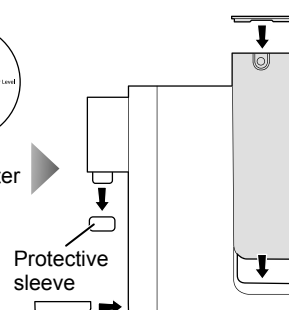

Fig. 3
- 3 Place the external water tank properly, and cover it with the external water tank lid. Install the drip tray, and remove the protective sleeve from the water outlet (see Fig. 3).